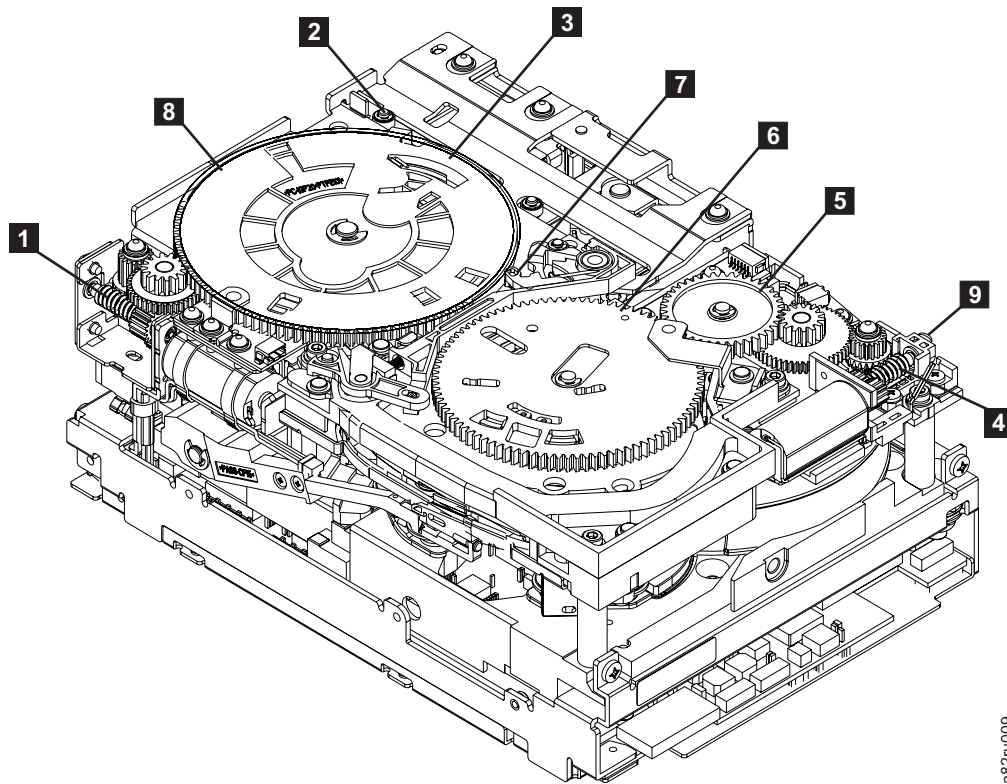

Figure 8-84. Drive with cover removed to reveal gear train
3. Locate the threader motor worm gear (**4** in Figure 8-84) the rear of the drive. You can either:
- a. Use your finger to rotate the threader motor worm gear and slowly rotate the threader mechanism gear (**6** in Figure 8-84) clockwise; or
- b. Use a #1 flathead screwdriver to turn the threader worm gear (**9** in Figure 8-84) clockwise.
This rotates the threader motor worm gear (**6** in Figure 8-84) clockwise, drawing the tape leader block assembly (LBA) into the cartridge.
4. As the LBA is secured in the cartridge, you should hear the LBA retention spring clips click into place. If you do not hear the click, continue rolling until the threader motor worm gear (**4** in Figure 8-84) stops. The LBA is in the correct position.
- a. Loader mechanism gear (**8** in Figure 8-84 on page 8-88) nearest the front of the drive that actuates the cartridge loader mechanism
- b. Position of the rotator stub (**3** in Figure 8-84 on page 8-88).
- c. Front loader motor worm gear (**8** in Figure 8-84 on page 8-88). Rotating this gear allows the loader mechanism gear (**1** in Figure 8-84 on page 8-88) to turn.
6. Rotate the loader motor worm gear (**1** in Figure 8-84 on page 8-88) to turn the loader mechanism gear (**6** in Figure 8-84 on page 8-88) counterclockwise. Continue turning until the rotator stub (**3** in Figure 8-84 on page 8-88) loses contact with the lever (**7** in Figure 8-84 on page 8-88). This releases the LBA leader pin.
7. Rotate the threader motor worm gear (**4** in Figure 8-84 on page 8-88) to turn the threader mechanism gear (**6** in Figure 8-84 on page 8-88) counterclockwise. This moves the LBA out of the cartridge and past the read/write head. Stop this rotation when the LBA is near the tape guide roller nearest the rear of the drive (**1** in Figure 8-86 on page 8-90).
8. Continue rotating the loader motor worm gear (**1** in Figure 8-84 on page 8-88) until the rotate stub (**3** in Figure 8-84 on page 8-88) is positioned as shown. Notice that the rotator stub (**3** in Figure 8-84 on page 8-88) is nearly aligned with the cartridge loader tray guide bearing (**2** in Figure 8-84 on page 8-88).